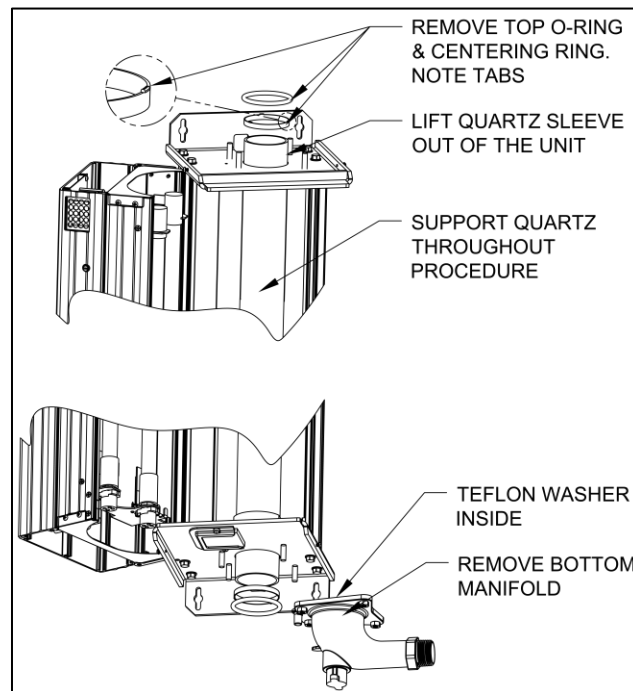

Figure 7-7
4. If the quartz sleeve is still not clean, it requires replacement. This is done by removing the bottom manifold (see Figure 7.7). Replacing a quartz sleeve is easier when the unit is placed on a horizontal surface – removing the unit from the wall to work on a bench is recommended, especially for the UV-H 1000 models.
9. Replace the bottom manifold (see Fig. 7.7) by installing the four nuts in an alternating pattern (top left, bottom right, bottom left, then top right). Check again for Teflon washer.